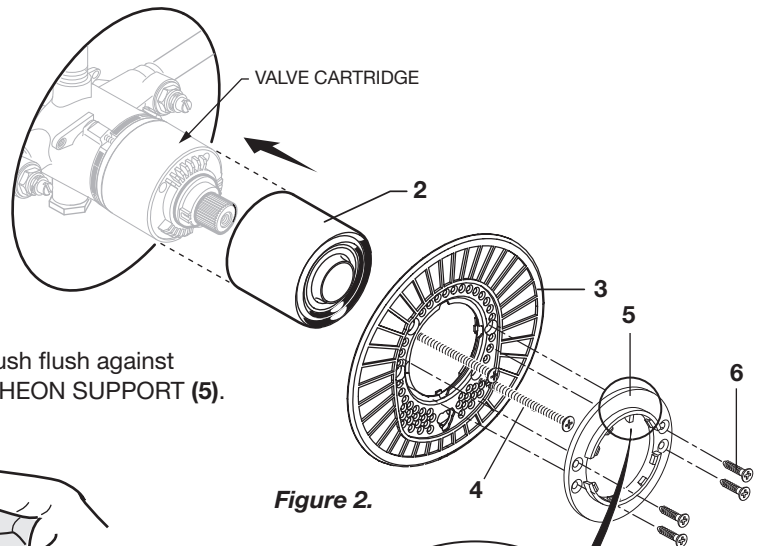

Figure 2.
- **Figure 2.** Push CAP (2) over VALVE CARTRIDGE until seated against stop.
- Mount ESCUTCHEON HOLDER (3) and gasket to valve body with SCREWS (4). Mount ESCUTCHEON SUPPORT (5) to ESCUTCHEON HOLDER (3) with SCREWS (6).